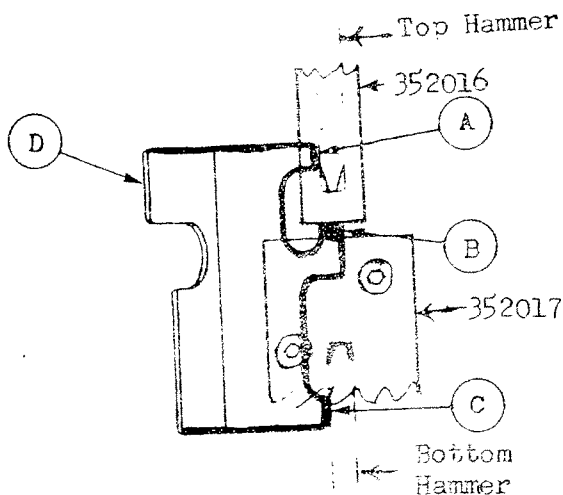
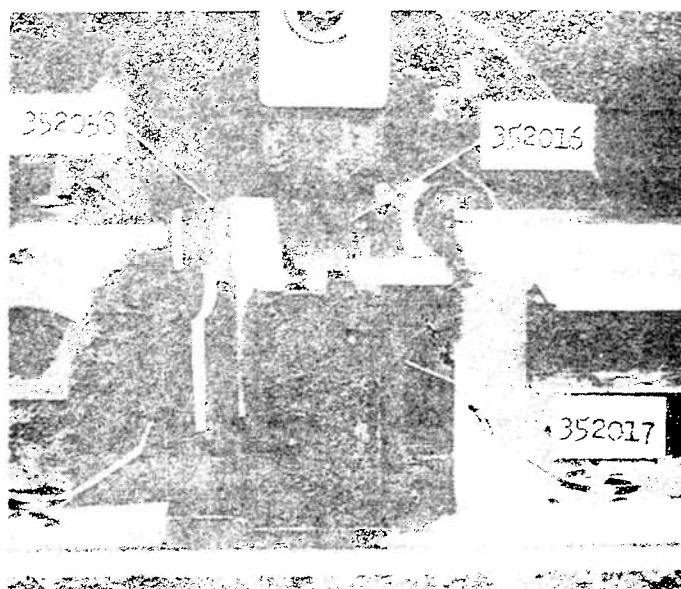
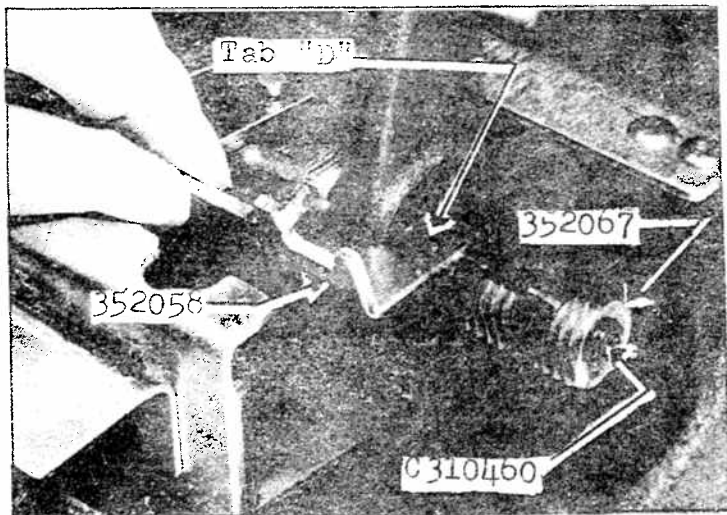
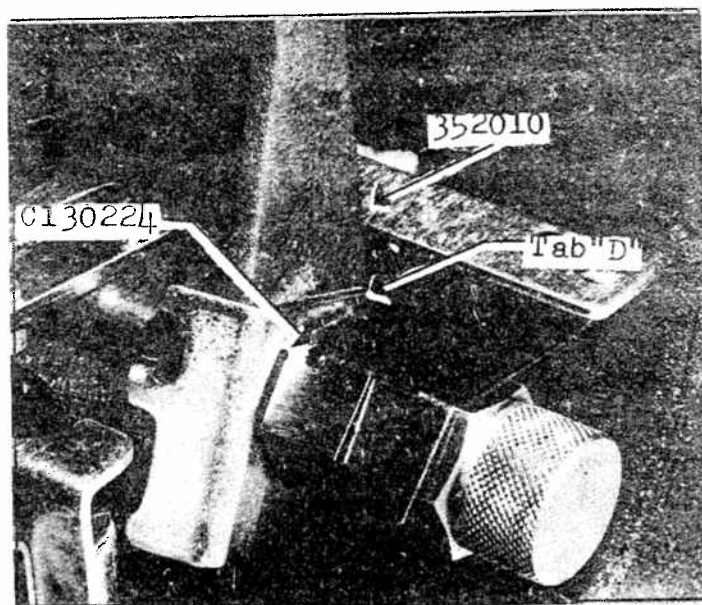

Figure 8
Figure 9
Figure 11
Figure 12
- (4) Place gauge on end behind the two anvils 352016 and 352017 so front of gauge is flush against the back side of anvils, with edges "A" and "C" of gauge (see sketch) are against two hammers of hammerslide 352025. Then turn the anvil lock knob clockwise until upper anvil rests very firmly on Tab "B" of gauge. See Figure 9.
- (5) When adjusting feed mechanism for Model 525 Setter, loosen motor mounting bolts and slide the motor to one side so gears do not mesh.
- (6) Remove the feed indicator knob 352065 complete with the 352066 feed spacing nut by turning it counter-clockwise until it is removed from the machine.
- (9) By hand, turn the 352067 screw, causing the 352007 plunger to turn until the tip of the 352011 feed pawl has been brought up against the tab of the 352058 feed mechanism adjustment gauge. (See Figures 9 and 10).
- (10) Hold the 352067 screw from turning and tighten the J312100 nut. Remove the gauge from machine.
- (11) Place the long tab of the 352058 gauge (indicated as "D" in Figure 8) so that the wide flat part of the gauge lies on the 352007 plunger between the mounting plate 352010 and 352067 feed spacing screw. With the 352058 gauge against the 352010 mounting plate, there should be up to $1/32$ " space between the gauge and the feed spacing screws. See Figure 11. If the space is less than $1/32$ ", loosen the C310460 socket set screw enough to permit the feed spacing screw to be backed off until the C310460 socket set screw is again tightened in place.
- (12) Remove the gauge and replace spacing nut "B" on the 352067 feed spacing screw.
- (13) Place the long tab of the 352058 gauge (indicated as "D" in Figure 8) so the thinnest part of the gauge is between the mounting plate 352010 and the 352066 feed spacing nut. See Figure 12. Rotate the feed spacing nut until it just touches the thinnest part of Tab "D". Slip the feed indicator knob over the feed spacing nut with feed range 15 and 16 appearing in window of the 352064 feed indicator lock spring.